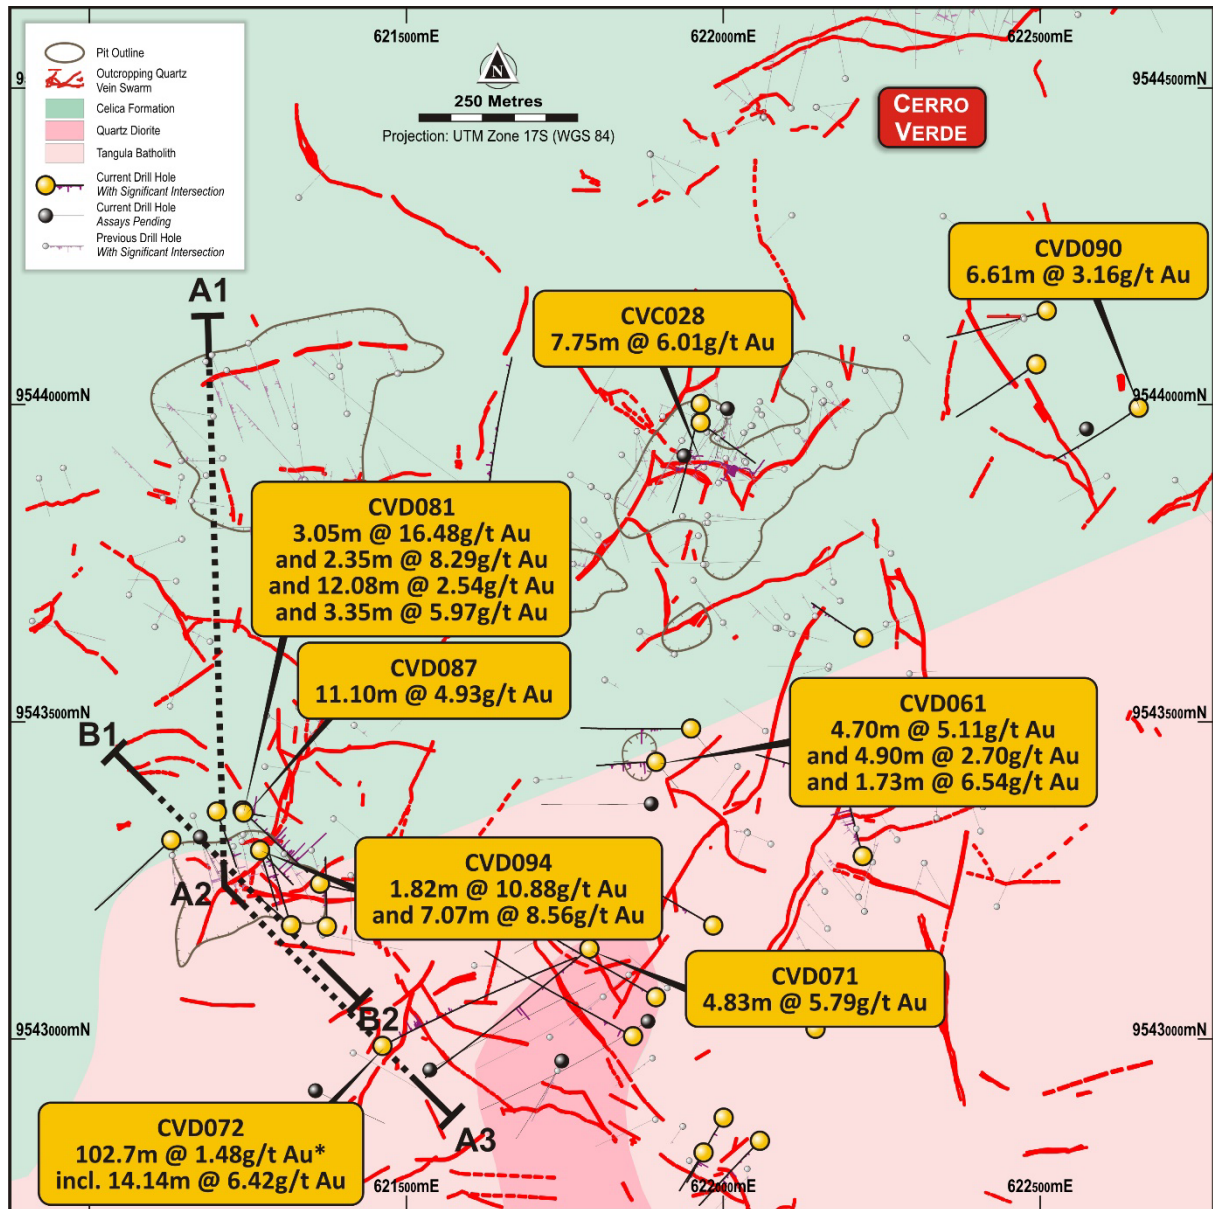

Figure 2: Cerro Verde prospect drill collar location with better reported intercepts on diagrammatic geology interpretation.
- 43.06m @ 2.56g/t gold with 6.95g/t silver was intersected from 72.82m in drill hole CVD072, previously reported with partial assay results (refer to ASX release dated 17 December 2021) Veins in the mineralized corridor above CVD072 include the Estrella, La Herradura, La Colorado and Clavo vein sets trending from northwest to northeast in orientation. The CVD072 intersects multiple veins which persist above and below the 43.06m at 2.56g/t Au, and an additional 12m of sampling proximal to this interval have been recently received, amending a broader intercept previously reported at a 0.3g/t Au cut-off to 102.7m @ 1.48g/t gold from 46.5m depth (refer to Appendix A, Figures 2 and 3 ).
Figure 3: Fence Section across the 1.6km wide Cerro Verde Prospect spanning across two zones of previous trial mining (at the Esperanza-Venado pits and Comanche-Brecha pits) and extending south to recent intercepts at CVD072. (Refer to Figure 2 for section location)
- 6.37m @ 1.53g/t gold and 9.94m @ 1.42g/t gold intersected from 110.33m and 133.42m depth respectively among multiple other reported intercepts in hole CVD093 (Refer to Appendix A and Figures 2 & 5) highlight a widening of the mineralised corridor identified as the Comanche-Brecha zone.
Figure 5: Comanche-Brecha Vein Zone cross section on extension to mineralisation west of Comanche Brecha trial mining pits (refer to Figure 2 for section location).